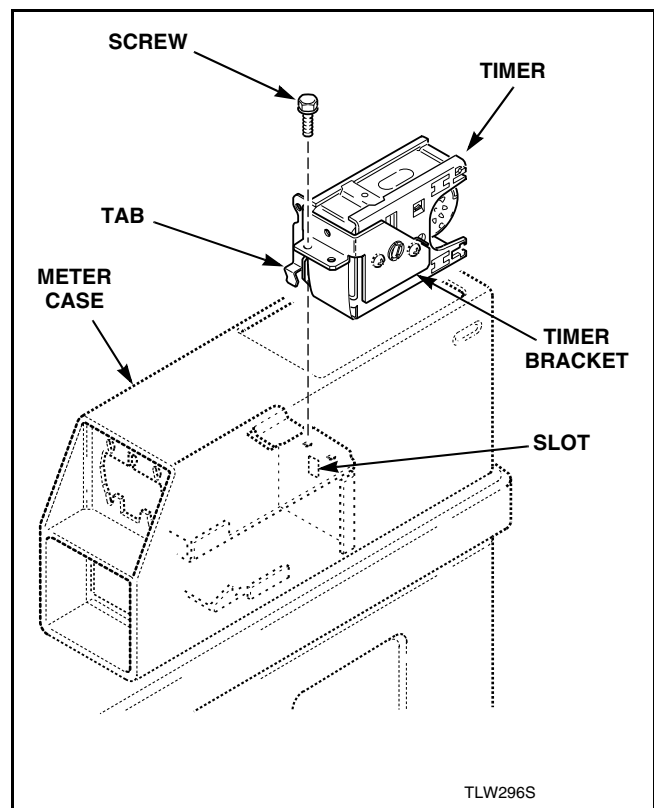

Figure 45
- Carefully place timer and timer bracket down inside meter case so tab on bracket sits in slot inside meter case. Refer to *Figure 45*.
- While holding timer bracket against rear of coin vault, install two screws holding bracket to meter case. Refer to *Figure 45*.